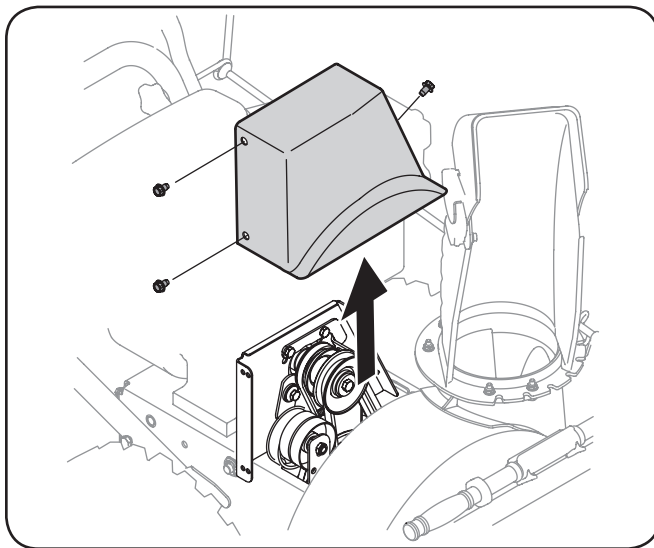

Figure 8-2
2. Remove the plastic belt cover on the front of the engine by removing the three self-tapping screws. See Fig. 8-2.